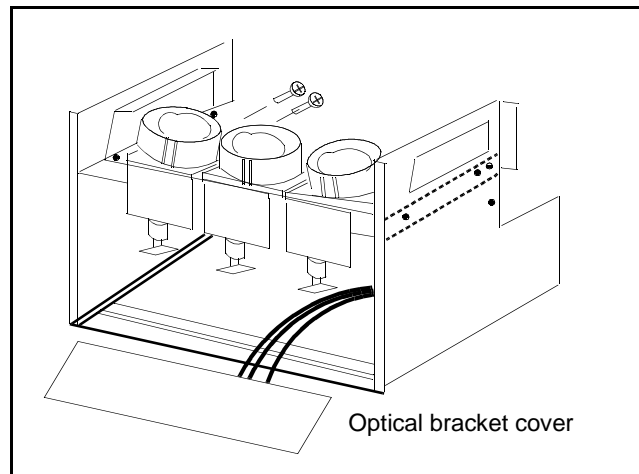

Figure 19. CRT replacement.
7. Remove (2) screws from the defective CRT housing. See figure 19.**